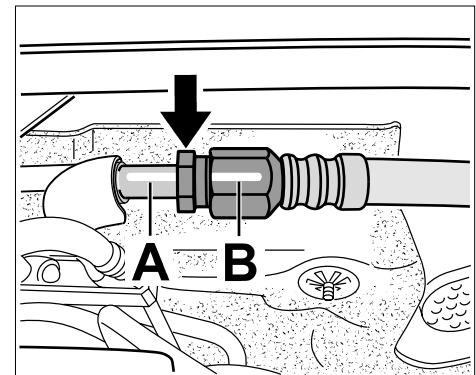

Figure 9
5.8 Screw on and tighten the new fuel line (with different marking and pre-fitted spacer ring) at the connection point ⇒ *Figure 9 -arrow-* at the plenum panel in such a way that the marking on the hexagon on the fuel line ⇒ *Figure 9 -B-* is aligned with the marking on the connection point ⇒ *Figure 9 -A-*. Counter at the hexagon on the fuel line while tightening.